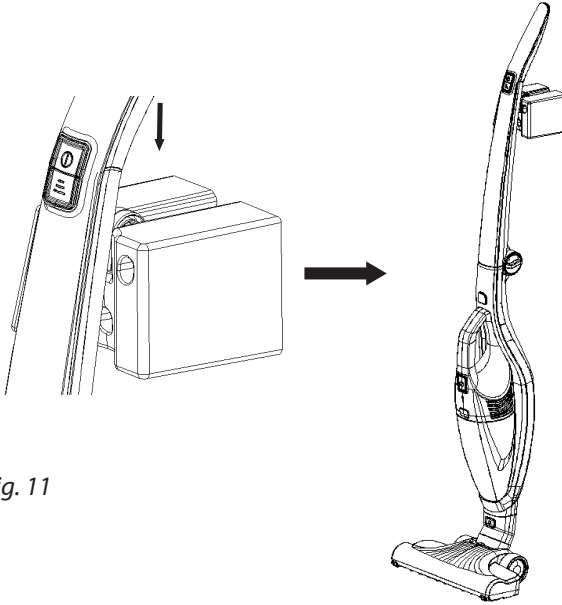

Fig. 11
- Lift the vacuum cleaner and connect the wall mount holder to the wall mount base (see Fig. 11)